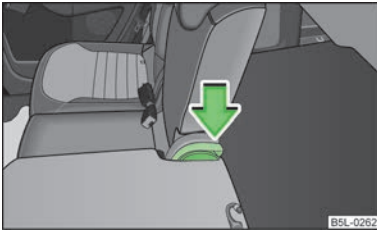

Fig. 54
- Press the lever » Fig. 54 and fold back the seat backrest. Check for yourself that the seat backrest is engaged by pulling on it.